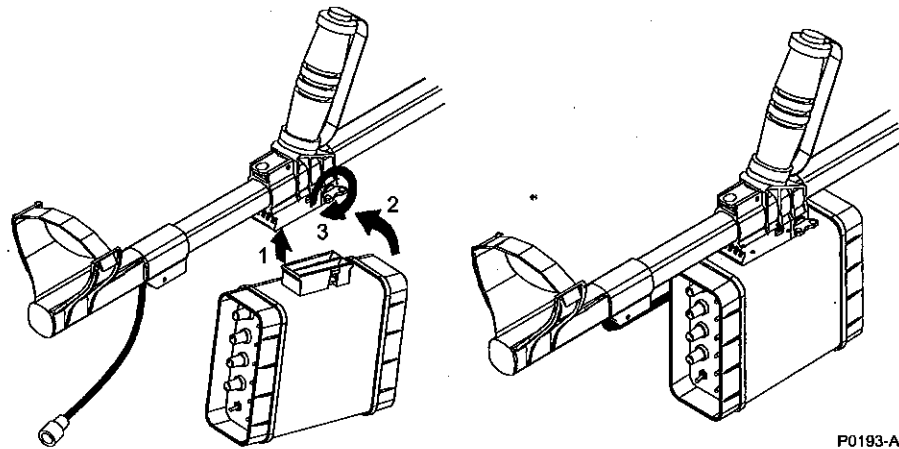

Figure 6 - Mounting the Control Box on the Shaft
- b. If the Control Box is to be mounted on the Upper Shaft, the mounting block on the Control Box is pushed into the locking bracket immediately beneath the Handle (see Step (1) then (2) on Figure 6). Rectangular lugs on the mounting block snap into rectangular holes on the sides of the locking bracket to hold the Control Box loosely in position. To lock the bracket, turn the locking pin at the front end of the bracket clockwise until it stops (Step (3)). The plug end of the coil cable is then connected to the 'Coil' socket on the Control Panel and the Military plug on the end of the battery cable is connected to the 'Power' socket.